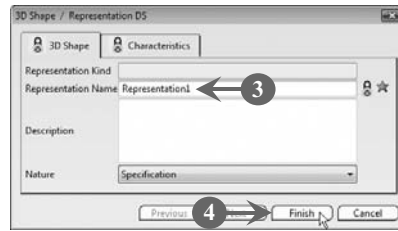

FIGURE 6.2
The **3D Shape/Representation DS** dialog box opens (**Figure 6.2**).
3. *Enter* a name for the representation in the **Representation Name** text box (Figure 6.2). In our case, we continue with the default name, **Representation1**.
4. *Click* the **Finish** button to close the **3D Shape/Representation DS** dialog box, as shown in Figure 6.2: